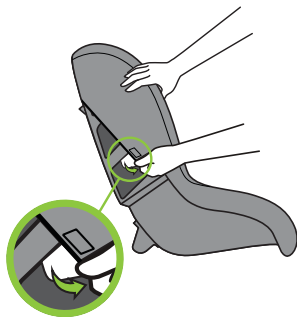

Figure 97
- Unfasten side tab on each side by sliding tabs down and out from under the edge of the Inner Shell, as shown in **Figure 97**.